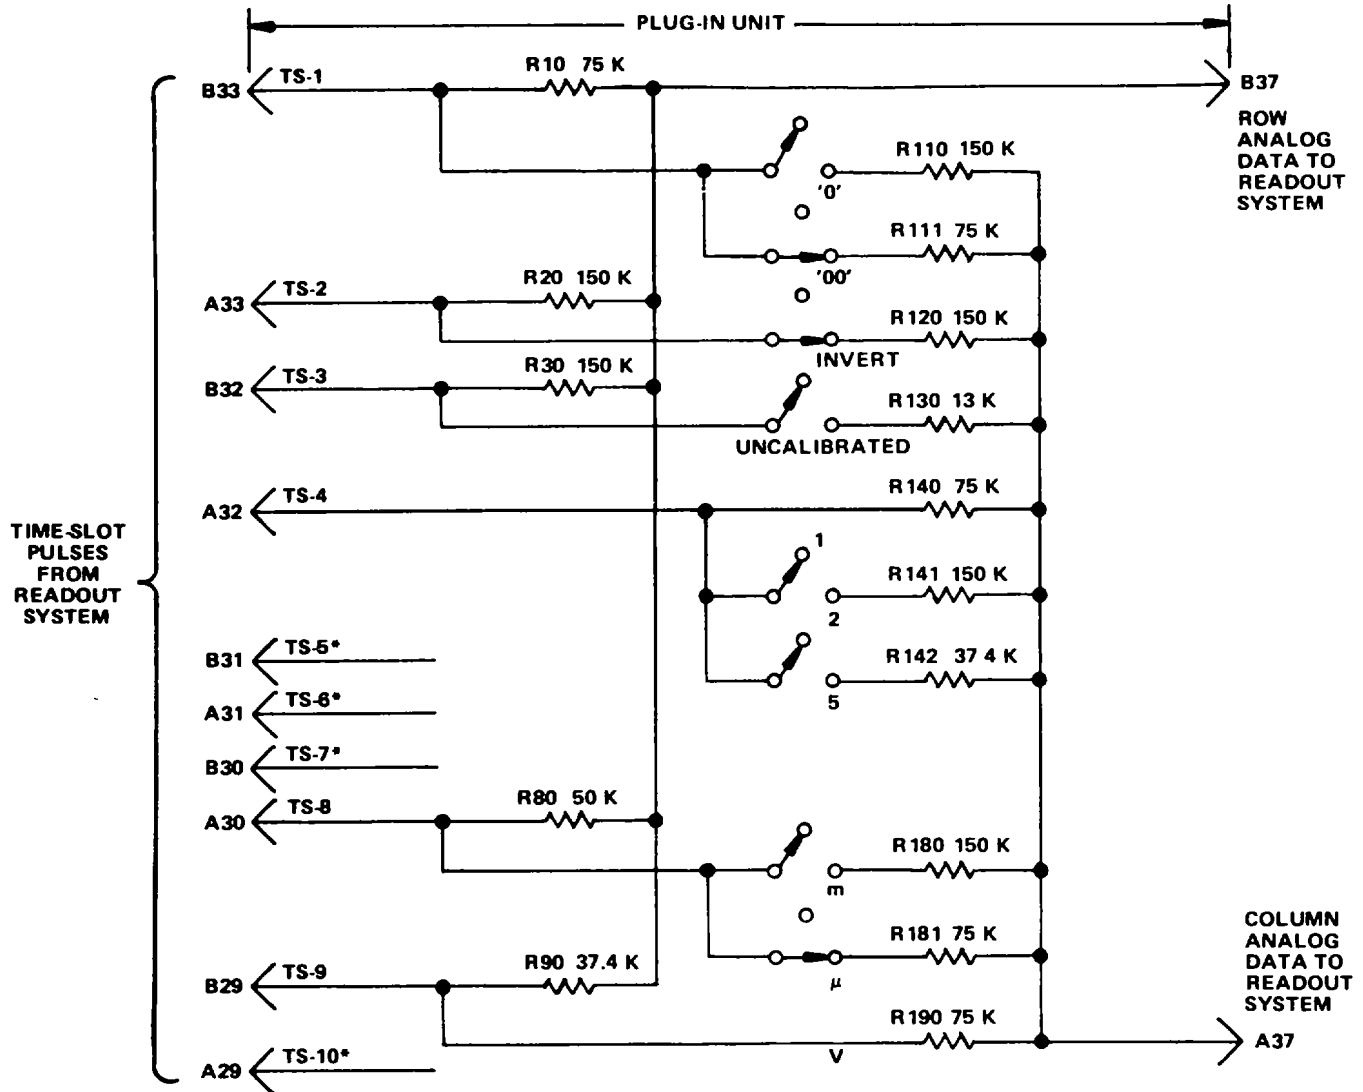

Figure 3-32. Typical encoding scheme for voltage-sensing amplifier plug-in unit Coding shown for deflection factor of 100 microvolts.
Data is conveyed from the plug-in units to the Readout System in the form of an analog (current level) code. The characters that can be selected by the encoded data are shown on the Character Selection Matrix (see Figure 3-25). Each character requires two currents to define it; these currents are identified as the column current and the row current, corresponding to the column and row of the matrix. The column and row data is encoded by programming the plug-in units. Figure 3-32 shows a typical encoding scheme using resistors for a voltage-sensing amplifier plug-in unit. Notice that the 10 time-slot (TS) pulses produced by the Time-Slot Counter stage are connected to the plug-in unit. However, time-slots 5, 6, 7, and 10 are not used by the plug-in unit to encode data when using the Standard Readout Format. (See Table 3-2 for Standard Readout Format.) The amplitude of the time-slot pulses is exactly -15 volts as determined by the Timer stage. Therefore, the resultant output current from the plug-in units can be accurately controlled by the programming resistors in the plug-in units.
For example, in Figure 3-32 resistors R10 through R90 control the row analog data, which is connected back to the Readout System. Figure 3-33A shows an idealized output current waveform of row analog data, which results from the time-slot pulses. Each of the row levels of current shown in these waveforms corresponds to 100 microamperes of current. The row numbers on the left-hand side of the waveform correspond to the rows in the Character Selection Matrix (see Figure 3-25). The row analog data is connected back to the Readout System via terminal B37 of the plug-in interface.
The column analog data is defined by resistors R110 through R190. The program resistors are connected to the time-slot lines by switch closures to encode the desired data. The data as encoded by the circuit shown in Figure 3-32 indicates a 100-microvolt sensitivity with the CRT display inverted and calibrated deflection factors. This results in the idealized output current waveforms shown in Figure 3-33B at the column analog data output, terminal A37 of the plug-in interface.
The column analog data encoded by most plug-in units can be modified by attenuator probes connected to the Input connectors of amplifier plug-in units. A special coding ring around the input connector of the plug-in unit senses the attenuation ratio of the probe (with readout-coded probes only). The probe contains a circuit which provides additional column current. For example, if a 10X attenuator probe is connected to a plug-in unit encoded for 100 microvolts as shown in Figure 3-32, an additional unit of current is added to the column analog data during time-slot 1. Since two units of current were encoded by R111 (see Figure 3-32), this additional current results in a total of three units of column analog current during this time-slot. Referring to the Character Selection Matrix, three units of column current, along with the two units of row current encoded by R 10, indicates that the prefix should be shifted one column to the left. Since this instruction occurs in the same time-slot that previously indicated that two zeros should be added to the display and only one instruction can be encoded during a time-slot, the zeros do not appear in the display. The crt readout will now be changed to 1 mV (readout program produced by plug-in same as for previous example).
Finally, memory C is interrogated during time-slot 8 to obtain information on whether the prefix should be changed, or left at the value that was encoded. If data has been encoded that calls for a shift in prefix, a negative-going output level is produced at pin 7. This negative level subtracts one unit of column current from the data at the input to the Column Decoder. Notice on the Character Selection Matrix of Fig.3-25 that when row 4 is programmed, a reduction of one column results in a one-column shift of the prefix. For example, with the 100 /V program shown in Fig.3-32, if the data received from the plug-in called for a shift in prefix, the crt readout would be changed to 1 mV (zeros deleted by program, see Encoding the Data).